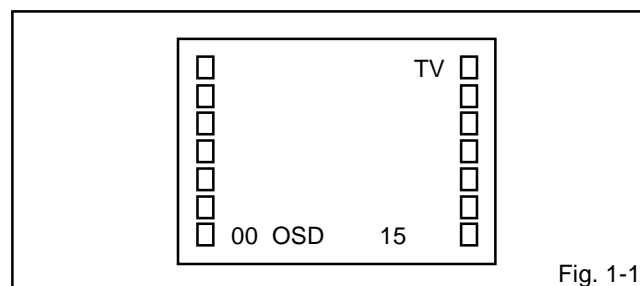

Fig. 1-1
Press the VOL. DOWN button on the set and the Channel button (9) on the remote control for more than 1 second to appear the adjustment mode on the screen as shown in **Fig. 1-1**.
4. Activate the adjustment mode display of **Fig. 1-1** and press the channel button (02) on the remote control to select "RF DELAY".
3. Activate the adjustment mode display of **Fig. 1-1** and press the channel button (01) on the remote control to select "CUT OFF".